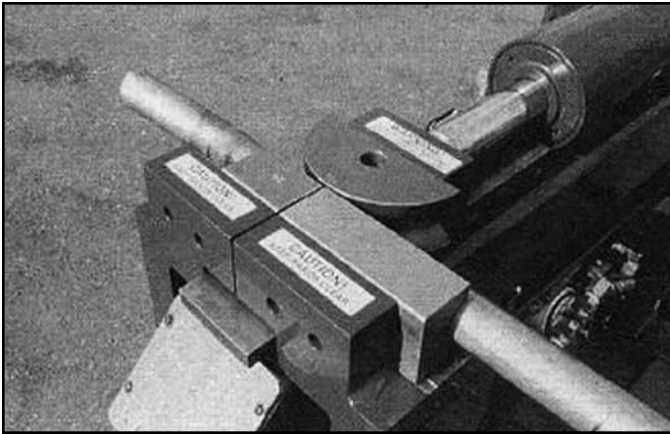

Figure 2-B
- For the second bend, slide the tubing to the LEFT so that the second CENTER MARK is lined up with the center of the shoes. (See figure 2-B.)